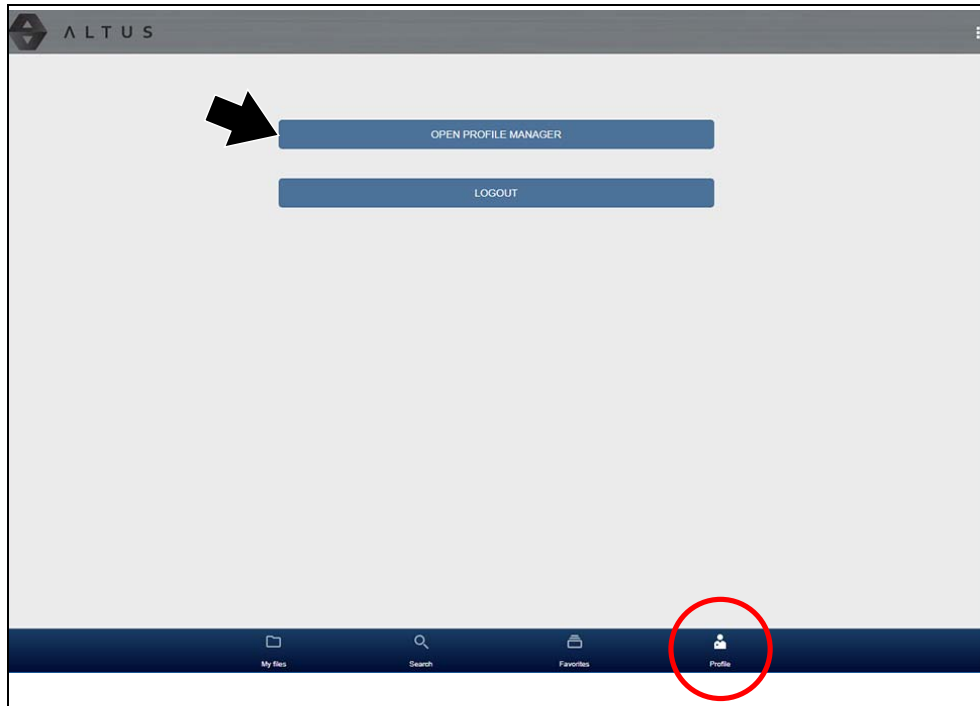

Figure 12-16
- Open Profile Manager (Figure 12-16), see Using Profile Manager on page 87
To open the Profile Manager screen, select **Profile** from lower toolbar, then select **Open Profile Manager** (Figure 12-16).